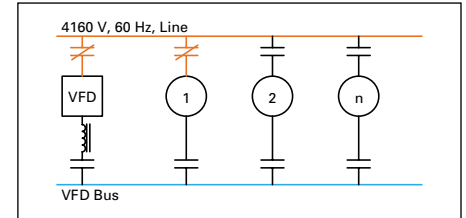

Figure 10.5-13. Motor #1 on Bypass
- VFD opens drive output contactor (Figure 10.5-13)